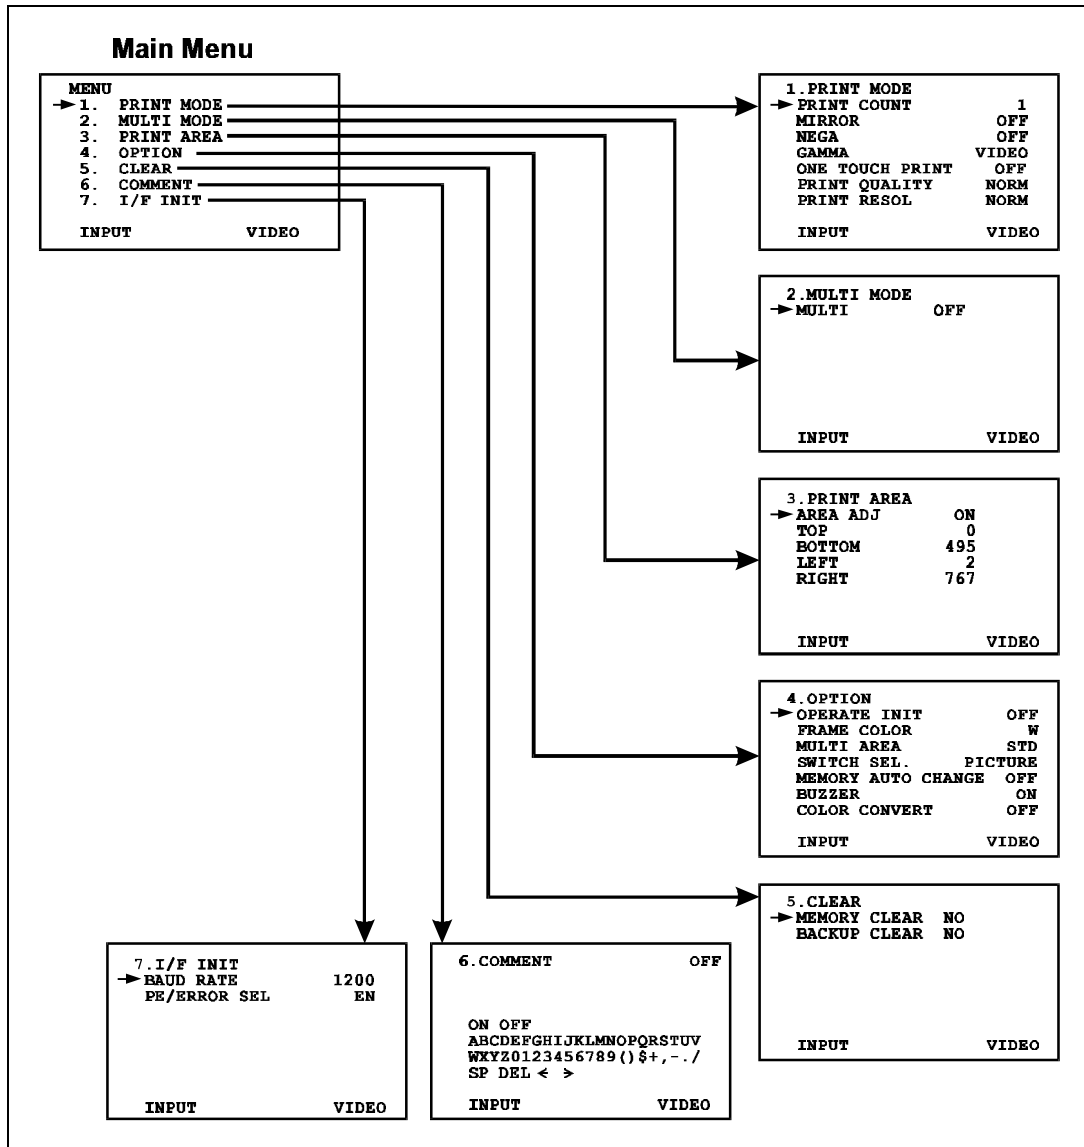

Figure 6-26. Correct TX-2000 Default Menu Settings
7. Verify that all menu settings match Figure 6-26. To view a sub-menu, press the MENU button on the front control panel until the arrow points to the desired sub-menu. Then press the SUB MENU button.